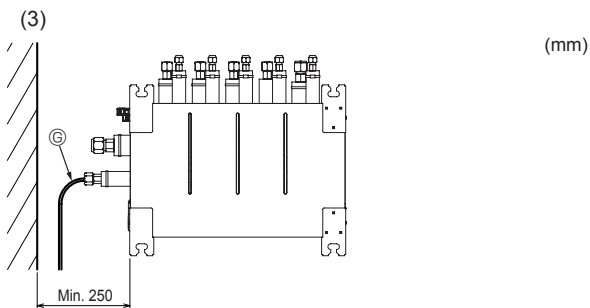

Fig. 4-10
(3) Vista superior (Fig. 4-10)